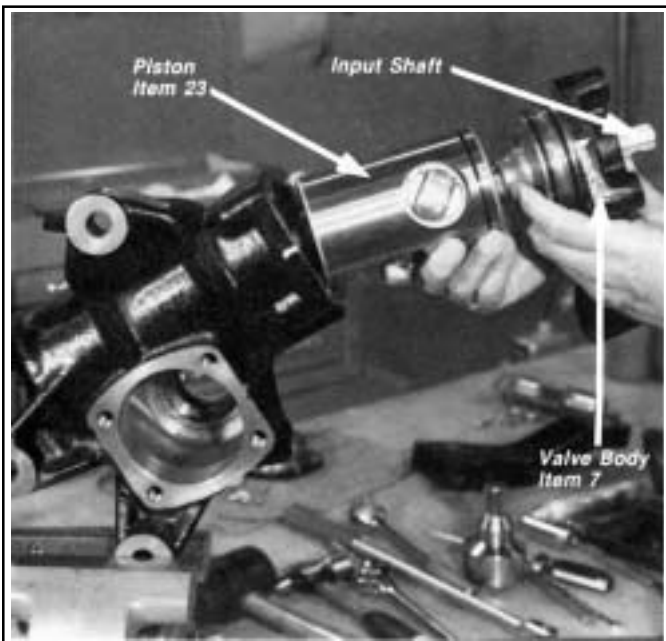

FIGURE 20 - PISTON REMOVAL/INSTALLATION
9. While preventing rotation of the input shaft end of the spindle assembly (3), pull the valve body (7) and piston (23) out of the housing (22). *Figure 20*